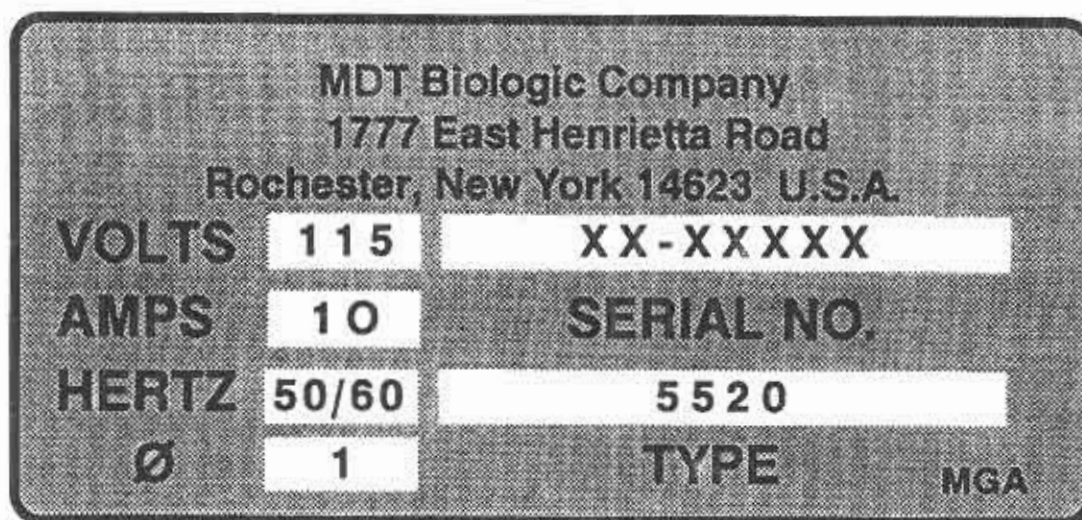

Figure 1-3. Manufacturer data plate.
(1) Two manufacturer data plates, located on the control module door and on the electrical power junction box cover, are identical and depicted in figure 1-3.